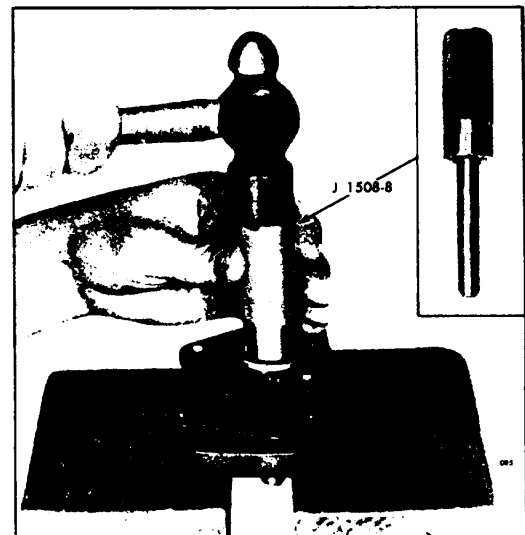

Fig. 6 Installing Inner Oil Seal
- b. With the pump body supported on wood blocks, insert the oil seal and tool in the pump body and drive the seal in until it bottoms in the counterbore (Fig. 6.).